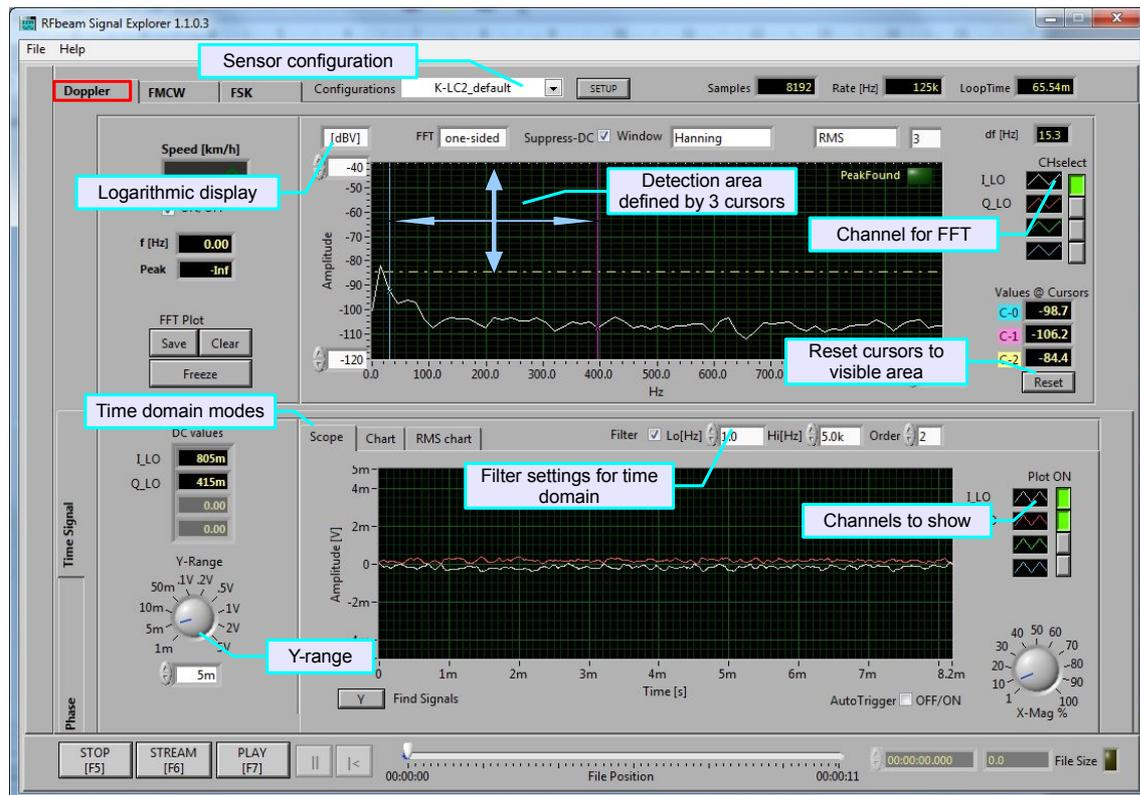

Fig. 1: Start Screen. Try to set all marked controls according to this figure
Please refer to the screen shot in Fig. 1
5. Select the most important controls according to Fig. 1 below.
6. Drag all 3 cursors as shown in Fig. 1 . If cursors are not visible, press cursor "Reset" button.
You will see the direction of your movement (Cursors must be set according to Fig. 1).